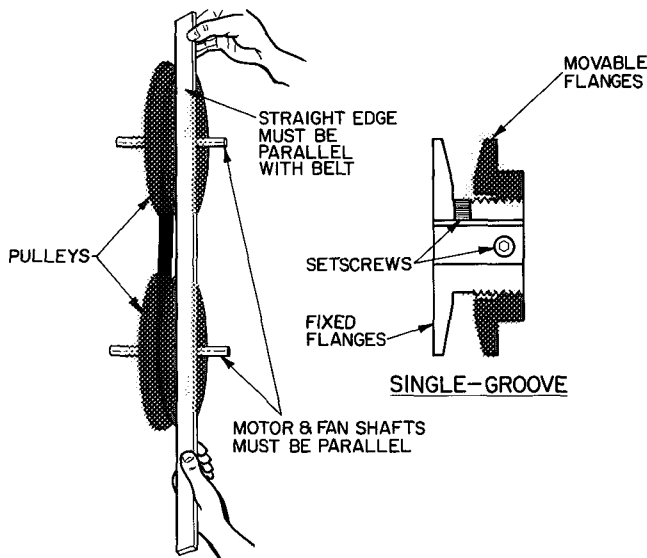

Fig. 8 — Pulley Adjustment
2. Loosen pulley movable flange setscrews (Fig. 8).
**TO ALIGN FAN AND MOTOR PULLEYS** — Loosen fan pulley setscrews and slide fan pulley along fan shaft. Make angular alignment by loosening motor from mounting plate. Check alignment with a straight edge (Fig. 8).